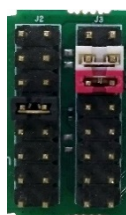
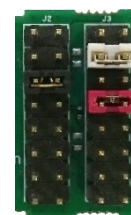

Figure 4: J2 and J3 jumper settings for SDIO
Figure 5: J2 and J3 jumper settings for USB
2. Select the SDIO (Figure 4) or USB (Figure 5) interface for host communication as described in sections 2.1 and 2.2 and connect the evaluation board to the host system.
The default jumper settings, as shown in Figure 4 and described in Table 4, enable SDIO as the host interface. Secure Digital (SD) card is used for power supply of the main and I/O voltages.
The jumper settings for selecting the USB interface for host communication are shown in Figure 5 and described in Table 5. Use a USB micro-B cable to connect the evaluation board to the host through the micro-USB receptacle on the evaluation board.